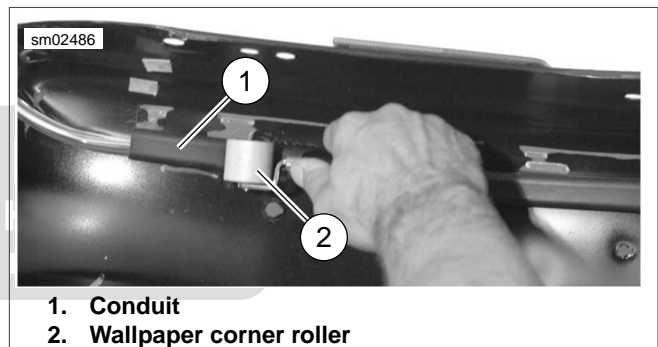

Figure 2-108. Purging Air Between Adhesive and Fender
For typical wiring harness/conduit placement, see Figure 2-108.
5. See Figure 2-108. Using a wallpaper corner roller (available at most home improvement stores), roll along conduit to purge the air from between the adhesive and the fender.